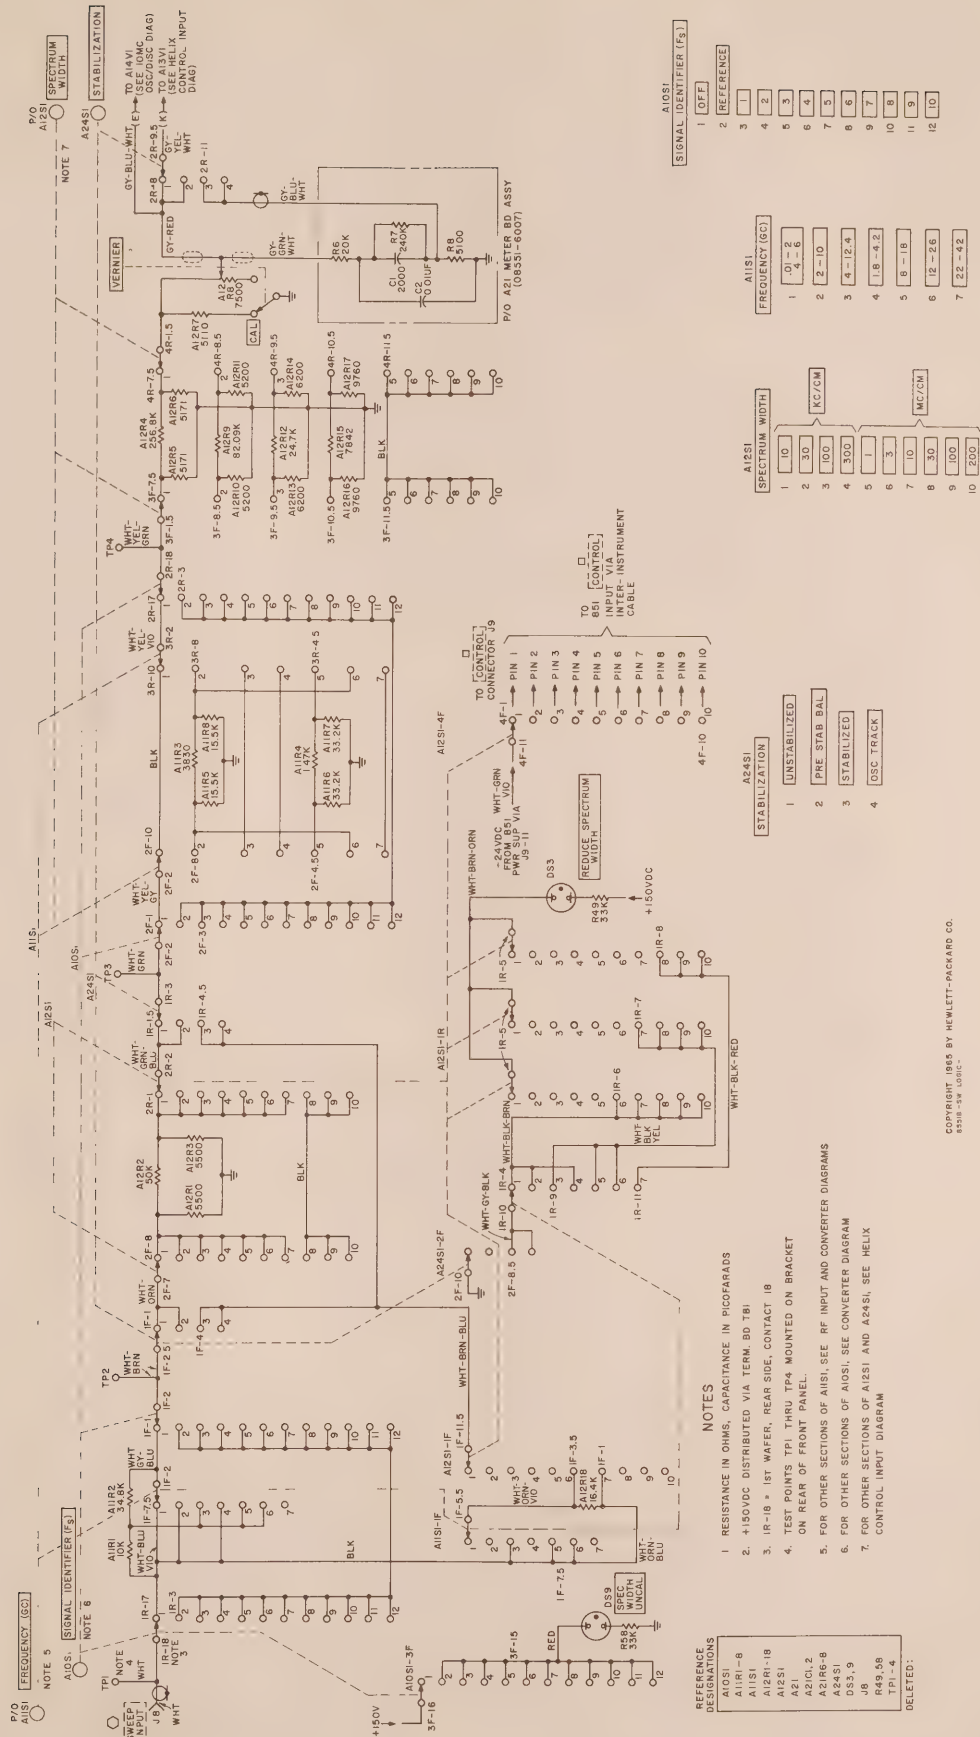

Figure 4-4. Switching Logic (sheet 2 of 2)
a. The SIGNAL IDENTIFIER switch is initially set to the REFERENCE position. In this position, the SIGNAL IDENTIFIER bypasses the $1/n$ attenuators of Figure 4-4. Thus the BWO fundamental sweeps at a rate determined by the SPECTRUM WIDTH control setting regardless of the selected frequency range. However, since the instrument is calibrated for identifying signals on the 100-kc/cm spectrum width, this discussion is based on the assumption that the SPECTRUM WIDTH is set to 100 kc/cm. It is important to note that the 851 CRT graticule calibration is n times 100 kc/cm, where n is the harmonic of the BWO used to mix with the particular signal being identified. That is, for fundamental mixing, the spectrum width calibration is 100 kc/cm, for 2nd harmonic mixing the calibration is 200 kc/cm, etc.